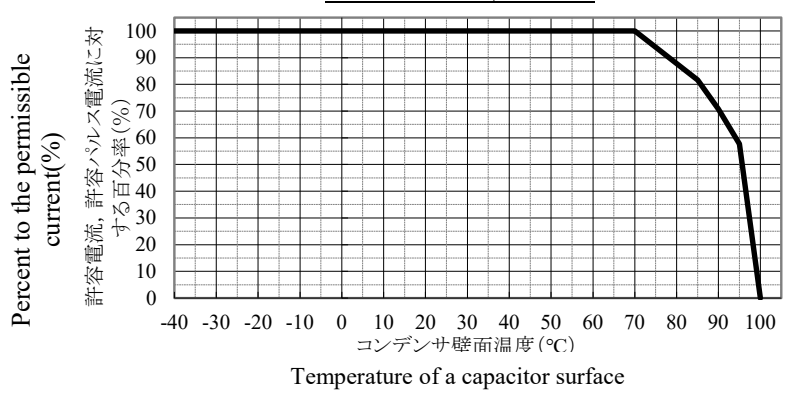

Fig.3 PERMISSIBLE TEMPERATURE RISE DERATING VS. SURFACE TEMPERATURE OF A CAPACITOR
* Make sure own temperature rise is within the permissible value shown in Fig.3 when the temperature of a capacitor rises by continuous pulse current.